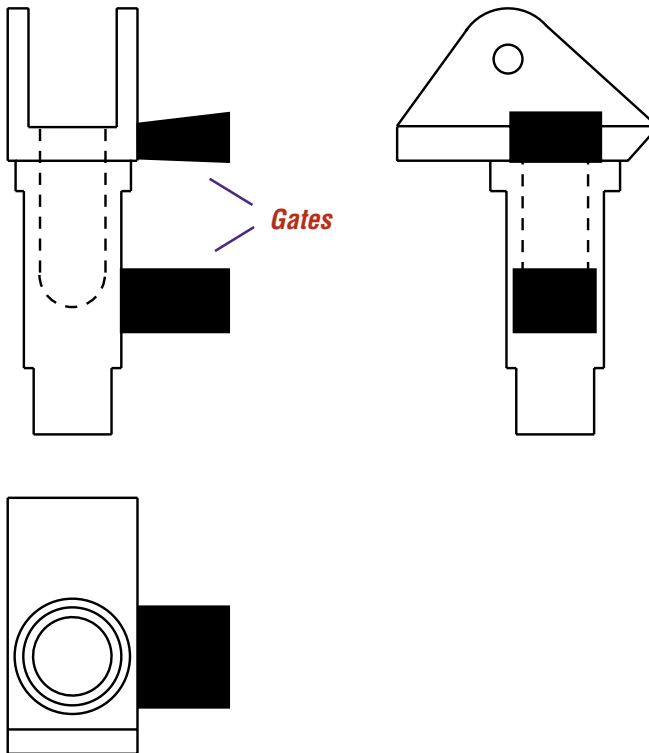

Figure 4
c. The final example is the shaft casting, Figure 4. Use of the CV process enabled much lower